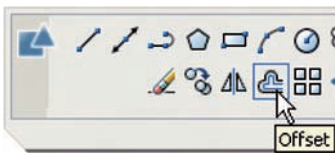

Fig. 5.12 The **Offset** tool from the **2D Draw control panel**
2. Call the **Offset** tool – either *left-click* its tool icon in the **2D Draw control panel** (Fig. 5.12), or *pick* the tool name in the **Modify** dropdown menu, or *enter o* or *offset* at the command line. The command line shows: